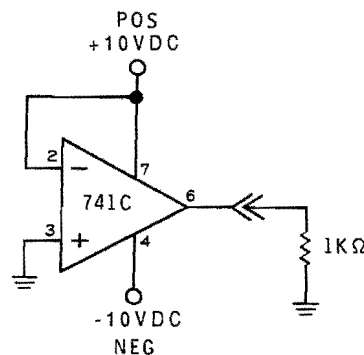

Figure 3-28
7. Construct the circuit shown in Figure 3-28.